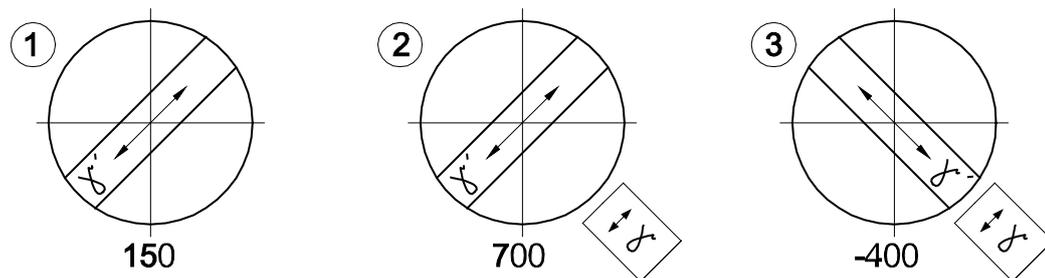

Fig. 4-123 Determining the vibration direction  $n_{\gamma}$  by the example of a synthetic fiber
- Next, turn on the rotary stage Pol by 45°, until the longitudinal axis of the fiber is oriented NORTH-EAST (NE) – SOUTH-WEST (SW) (Fig. 4-123). In this position, the specimen shows the maximum brightness (diagonal position) and may appear in any color.